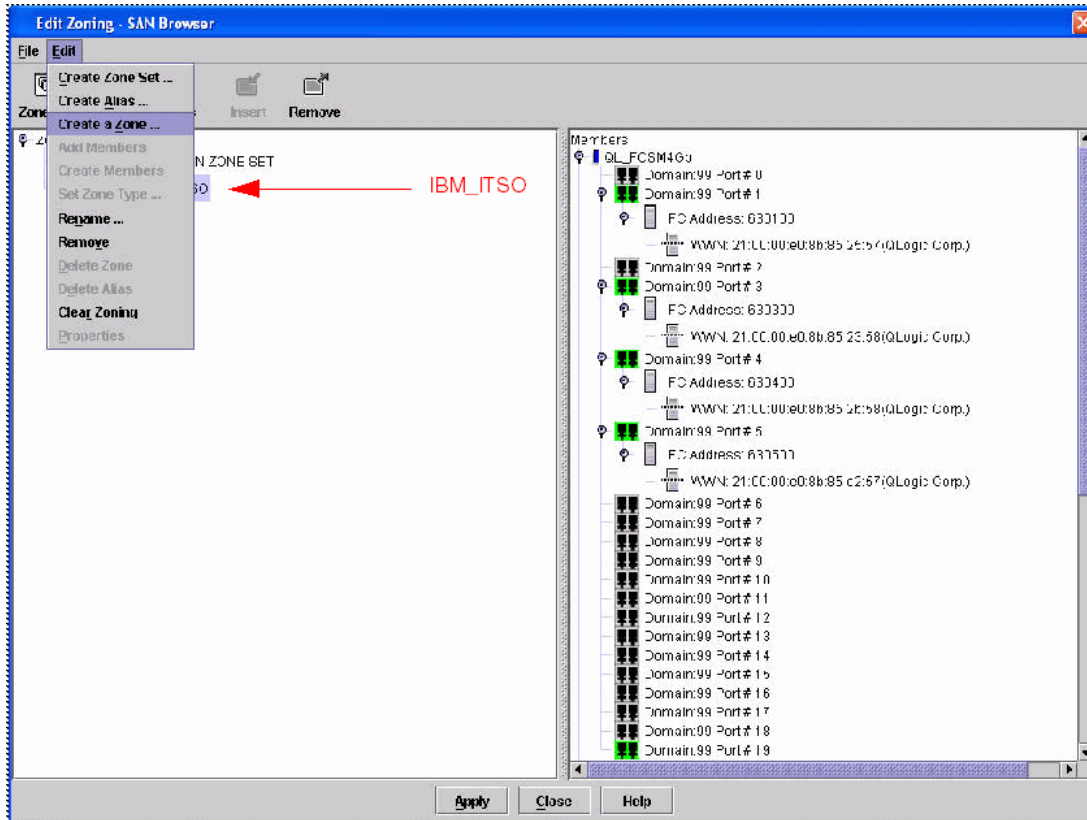

Figure 7-23 Edit Zoning - SAN Browser window
13. Highlight the Zone Set you just created. From the Edit Zoning - SAN Browser action menu (Figure 7-23), select **Edit** → **Create a Zone**.